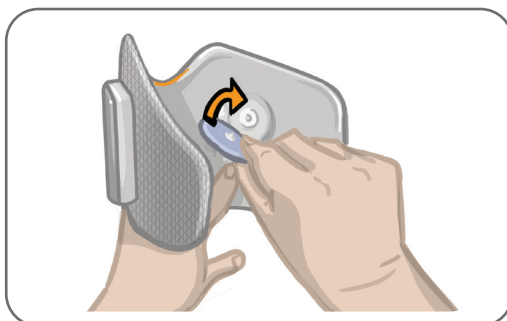

Figure 8-5: Attaching the Cloth Electrodes
6. Attach the Round Cloth Electrodes to the electrode bases. See Figure 8-5. For regular Lower Leg Cuff users make sure the Cuff Snap Covers are in place.